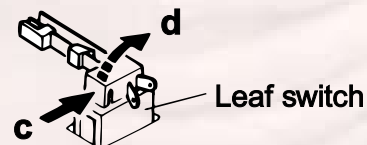

Fig.3
■ **Leaf switch** (Fig.3)
1. Press the leaf switch in the direction of the arrow c and then remove it in the direction of the arrow d referring to Fig.3.